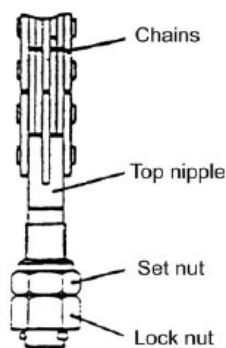

Fig. 6-6
- (1) Place a salver on the forks and make the forklift stop on the horizontal ground.
- (2) Make the forks and salver descend to the ground.
- (3) Take down tie-in on top of the chains. And take out chains from sheave. (See Fig. 6-6)
- (4) Make the inner mast rise.
- (5) The forklift can be removed when the fork bracket disengaged from the outer mast.
- (6) Replacing main rollers